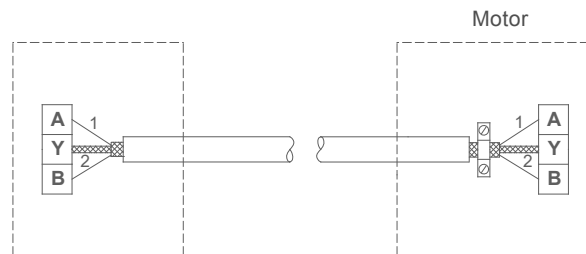

Fig. 25 Connection with screened 2-core cable
- If a screened 2-core cable is used in the existing installation, connect the cable as shown in fig. 25.